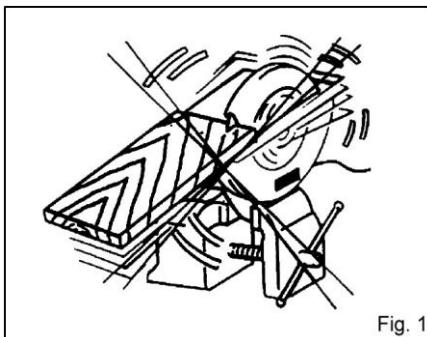

Fig. 1
12. Never attempt to cut with the tool held upside down in a vise. This can lead to serious accidents, because it is extremely dangerous. (Fig. 1)